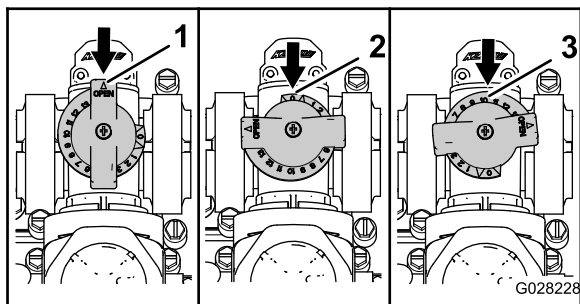

Figure 18
- The agitation bypass valve is in the full Open position as shown in A of Figure 18.
- The agitation bypass valve is in the Close (0) position as shown in B of Figure 18.
- The agitation bypass valve is in an intermediate (adjusted relative to the pressure gauge for the sprayer system) position as shown in C of Figure 18